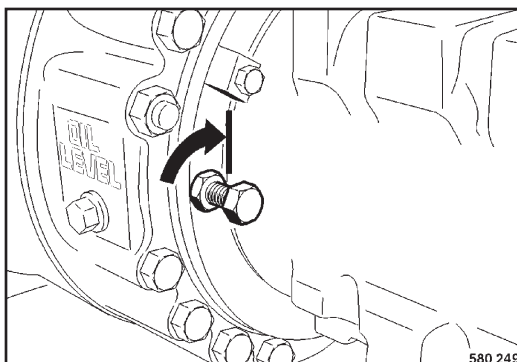

Fig. 73
- Turn the brake releasing screws (Fig. 73) back in again, until they abut against the brake piston.